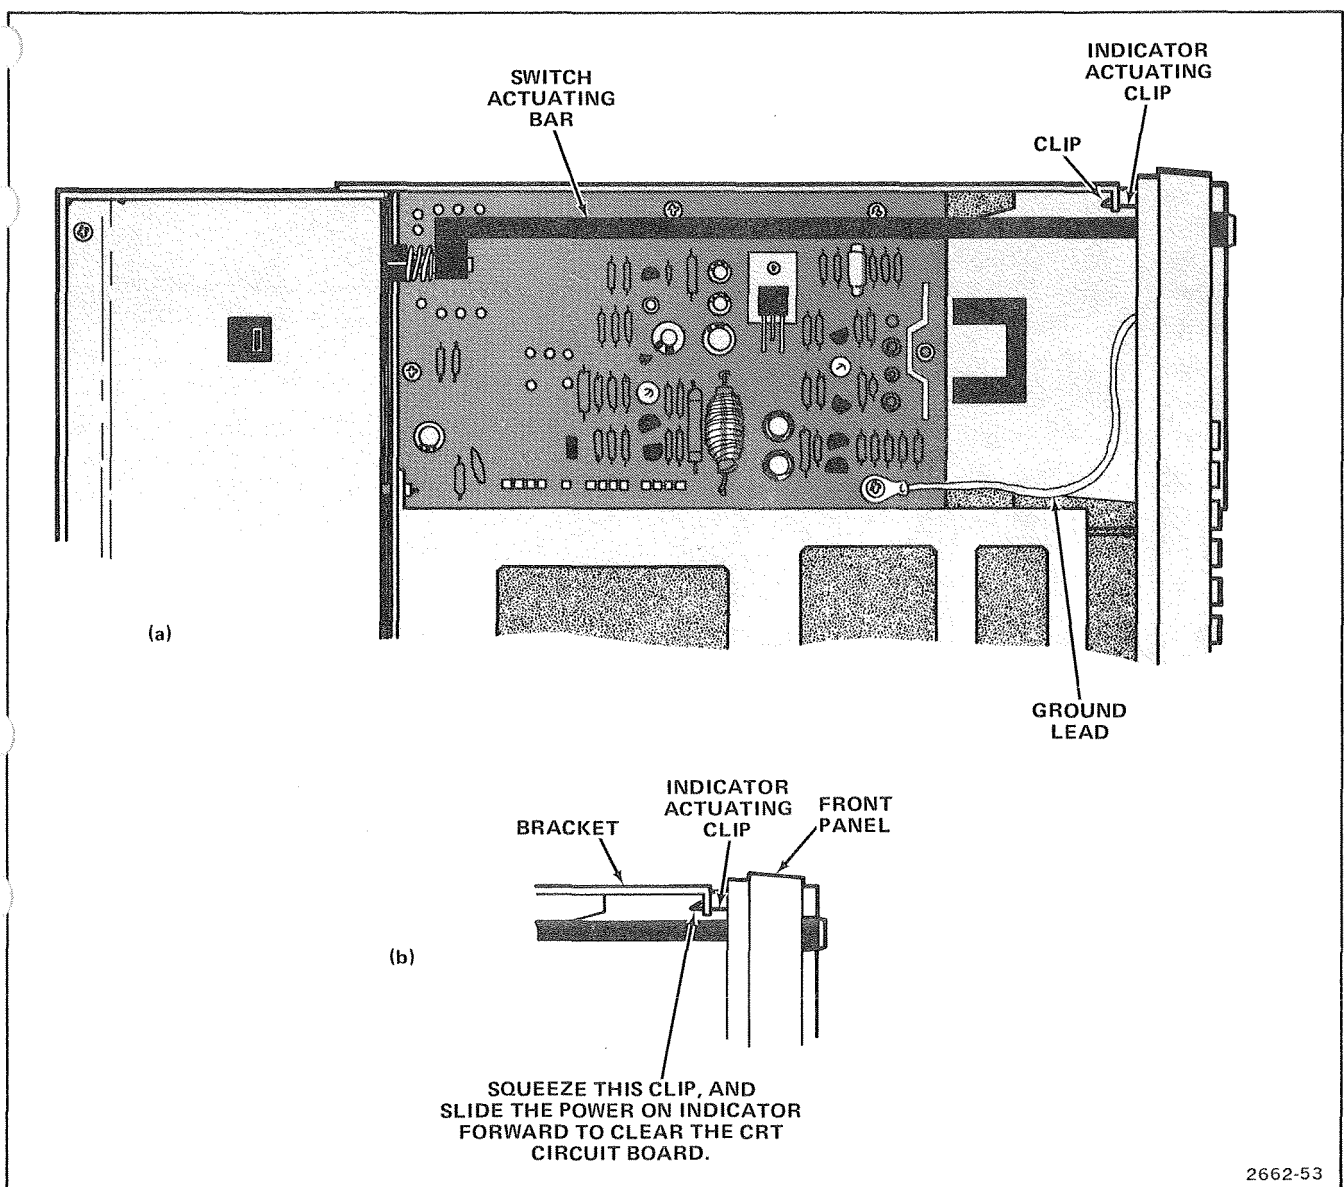

Figure 5-10. CRT Circuit board removal details.
6. Use a small flat-head screwdriver to compress the clip on the end of the indicator-actuating bar while sliding the switch-actuating bar forward to clear the CRT Circuit board (see Figure 5-10).
9. To reinstall the CRT Circuit board, position it into place on the chassis and secure it with the four retaining screws. Ensure that the front panel ground lead is reinstalled on the inside front screw (see Figure 5-10).
12. Reinstall the screws that retain the CRT Circuit board. Ensure that the front panel ground lead is reinstalled on the inside front screw (see Figure 5-10).